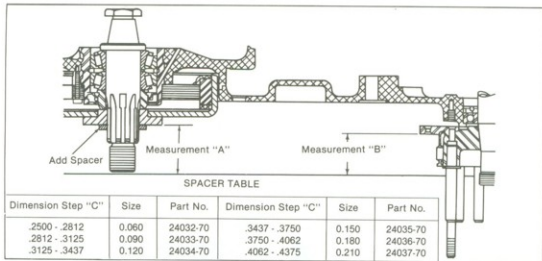

Figure 6-3. Primary Chain Sprocket Alignment
1. See Figure 6-3. Reinstall the clutch hub and take measurement "A" from the chain cover surface to the alternator rotor surface.